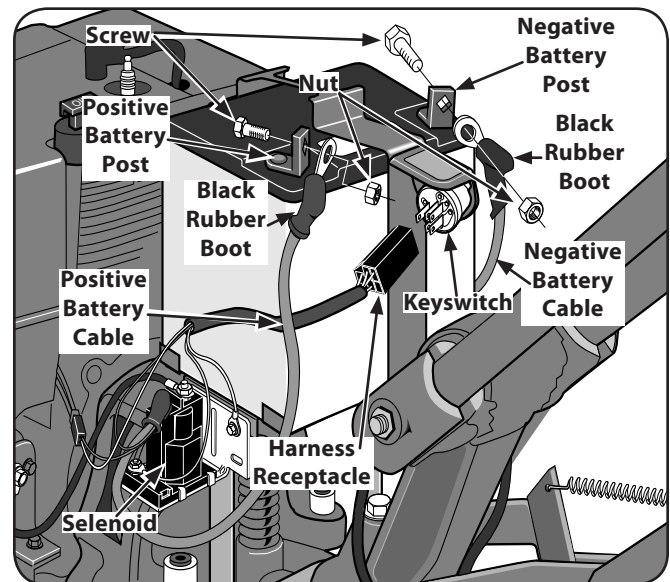

Figure 3-14
1. Before installing the battery and its hold-down clamp, insert the plastic wire harness receptacle into the prongs of the keyswitch located on the hold-down clamp. See Figure 3-14.
2. Remove the ignition keys from the keyswitch and store them safely away. Do not insert the key into the keyswitch until you complete this section and read the Operation section. See Figure 3-14.
- Use a $\frac{5}{8}$ " long screw and $\frac{1}{4}$ -20 hex nut to connect the positive (+) battery cable to the positive (+) battery post. Make sure that this is the cable on the left side, with one end attached to the solenoid. See Figure 3-14.
- Slide the black rubber boot completely over the battery post and cable connector. See Figure 3-14.
- Use a $\frac{5}{8}$ " long screw and $\frac{1}{4}$ -20 hex nut to connect the negative (-) battery cable to the negative (-) battery post and secure with screw and nut. See Figure 3-14.